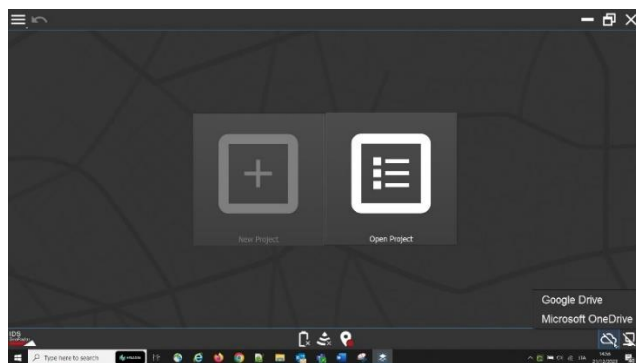
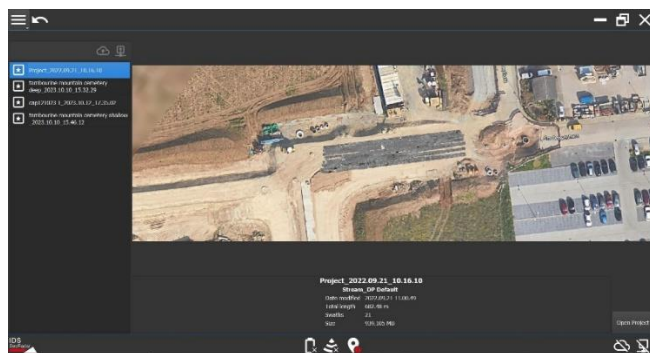

Fig. 54 Open Project
Fig. 55 Cloud drive upload
Also, by pressing the Open Project icon (Fig. 54), the window shown in (Fig. 55) shall pop up. This window shall allow the User to upload a project folder on the cloud by selecting the specific project to upload and pressing the  icon.
1. Tap on the icon  on the right lower corner of Fig. 55,